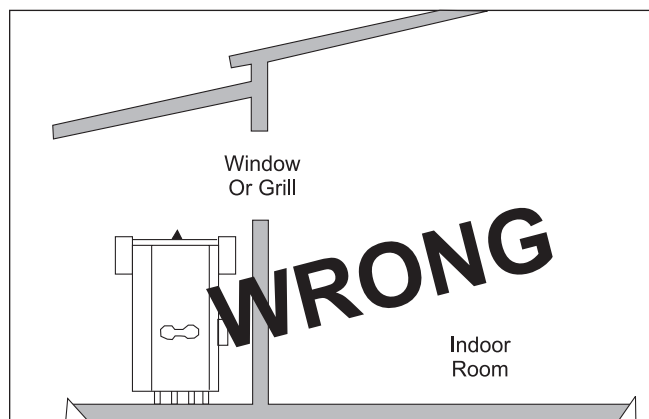

Figure 7. Incorrect Outdoor Installation.
3. Never install the boiler under any kind of roof overhang. Do not place the boiler below or adjacent to any doors, windows, louvers, grills, etc., which connect in any way with an inhabited area of a building. This includes other structures such as garages or utility rooms (see Figure 7).